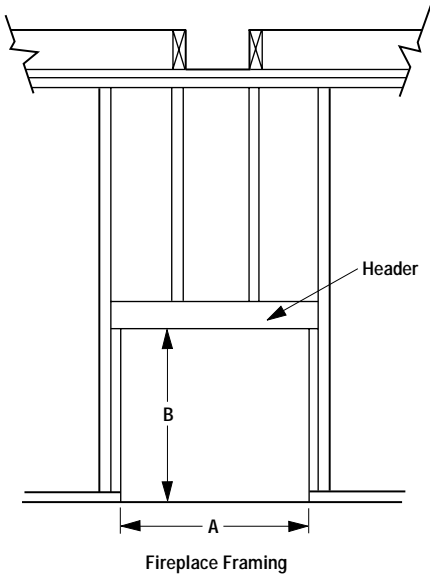

Figure 11
Step 3. Refer to fireplace drawings and specifications on pages 6 and 7 for framing dimensions and details. Frame appliance enclosure as illustrated in Figures 11 through 14 on page 8.